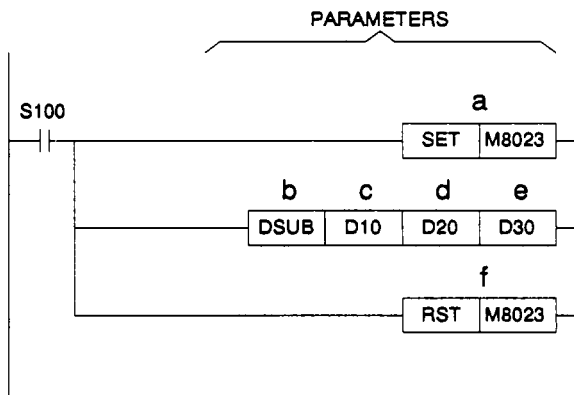

Figure 1: The floating point Subtract instruction in ladder format.
Figure 1 shows the typical appearance of a floating point Subtract instruction in a ladder program, while Figure 2 shows the same piece of ladder logic written in instruction format. This Subtract instruction would have the effect of subtracting the floating point value stored in Data Register pair D21 and D20 from the floating point value stored in D11 and D10 when State S100 is turned on. The floating point result would then be stored in D31 and D30. The following section explains each parameter in greater detail:
- i) **DSUB:** The standard form of the instruction, taking 13 steps of program. In the example shown in Figure 1, while S100 is turned on, the DSUB instruction will operate.